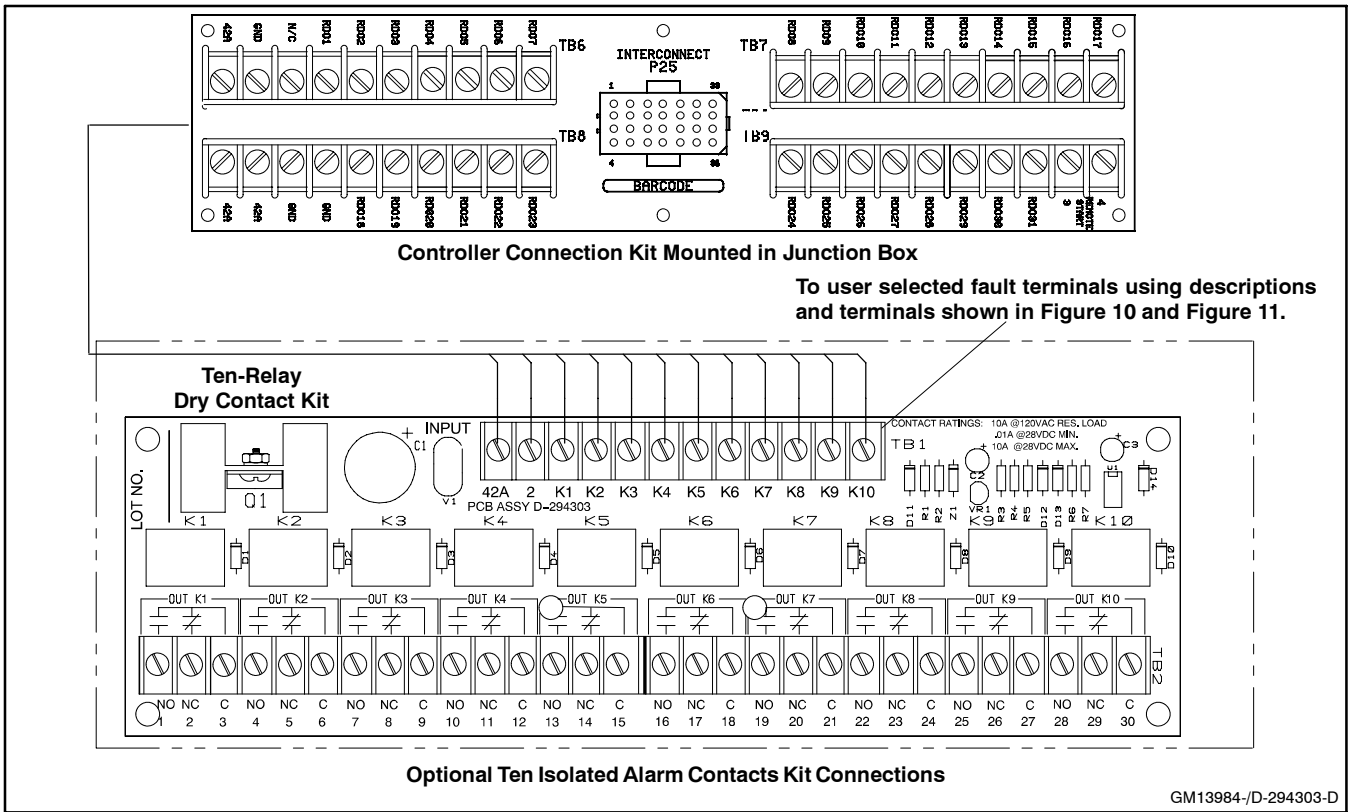

Figure 9 Ten-Relay Dry Contact Relay Kit Connections
- 4.3.2 Connect the 12-lead dry contact relay wiring harness (GM16755) to the ten-relay dry contact kit relay input terminals. See Figure 9 for connection information.
Connect the 12-lead dry contact relay wiring harness (273935) 20-400 kW or (GM16755) 450-2000 kW from the controller connection assembly to the ten-relay dry contact assembly relay input terminals. See Figure 9. Terminals 2 (ground) and 42A (battery voltage) provide an electrical source to operate the K1-K10 relays.